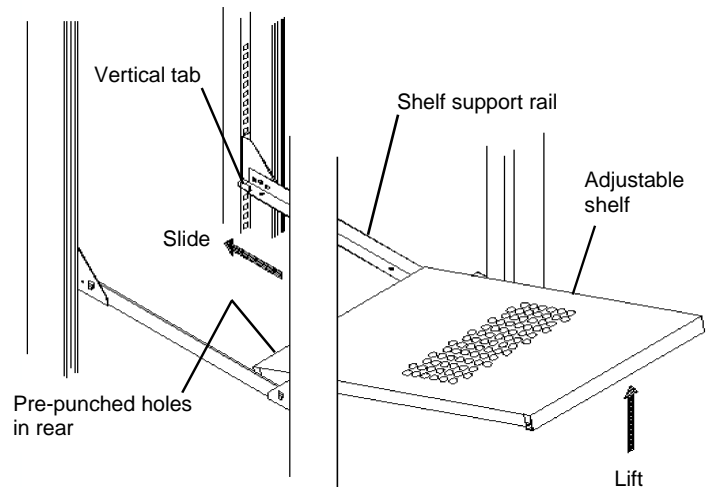

Figure 5
1. Position the rear flanges of the Adjustable Shelf onto the Shelf Support Rails. Lift up the front of the Shelf and slide it towards the back of the LAN LOCKER until it contacts the vertical tabs on the Support Rails. See **Figure 5**.